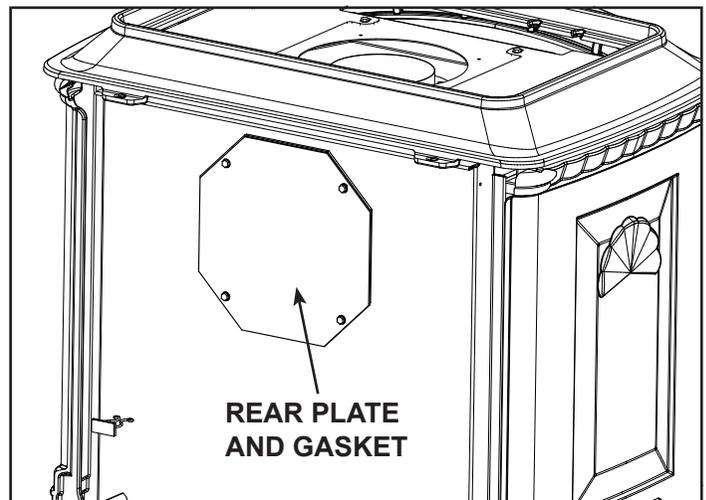
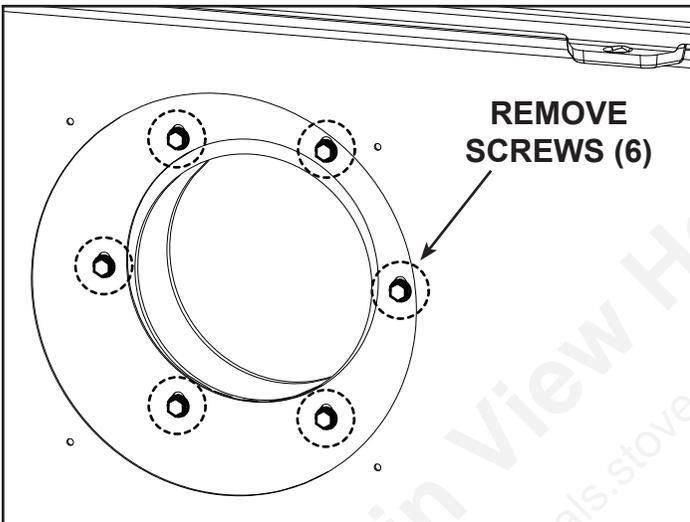
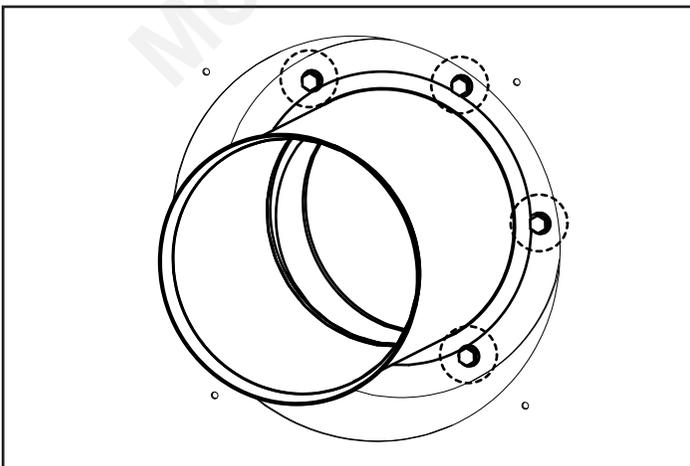

Figure 6.5
Figure 6.7 - Remove Screws Under Rear Access Plate
Figure 6.8 - Attach inner collar adapter to rear flue vent
2. Remove vent pipe adapter and gasket by removing 4 screws. Save the screws. (If gasket breaks, apply high-temp sealant to bottom of adapter before installing as shown in Figure 6.8.)
- Remove rear access plate and gasket by removing four screws. Save the screws, Figure 6.5.
- Remove six screws under the rear access plate removed in Figure 6.5. See Figure 6.7. Install inner pipe adapter and new gasket (included with kit) using six screws, Figure 6.8.
- Install starting collar with gasket or high-temp sealant to rear vent opening. Attach with screws removed in Figure 6.5. Place grille gently into the opening on top of appliance. The grille does not have a hole and is included with the kit.